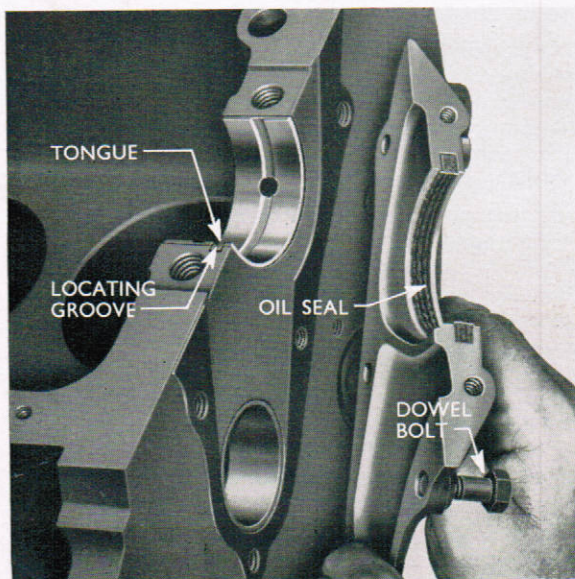

Fig. 16
(c) **Fit a new oil seal housing gasket** to the rear face of the cylinder block and secure the housing to the block with four spring washers and the correct bolts, see Fig. 16. Note that the two bolts adjacent to the sump flange are dowel bolts to ensure correct alignment and these must be "nipped" first. Equally tighten the four bolts.
4. (a) **Position the upper halves of the main bearing liners** in their block locations. Wipe clean the liner locations in the block and fit the liners so that the locating tongues engage the machined locating grooves, see Fig. 16.